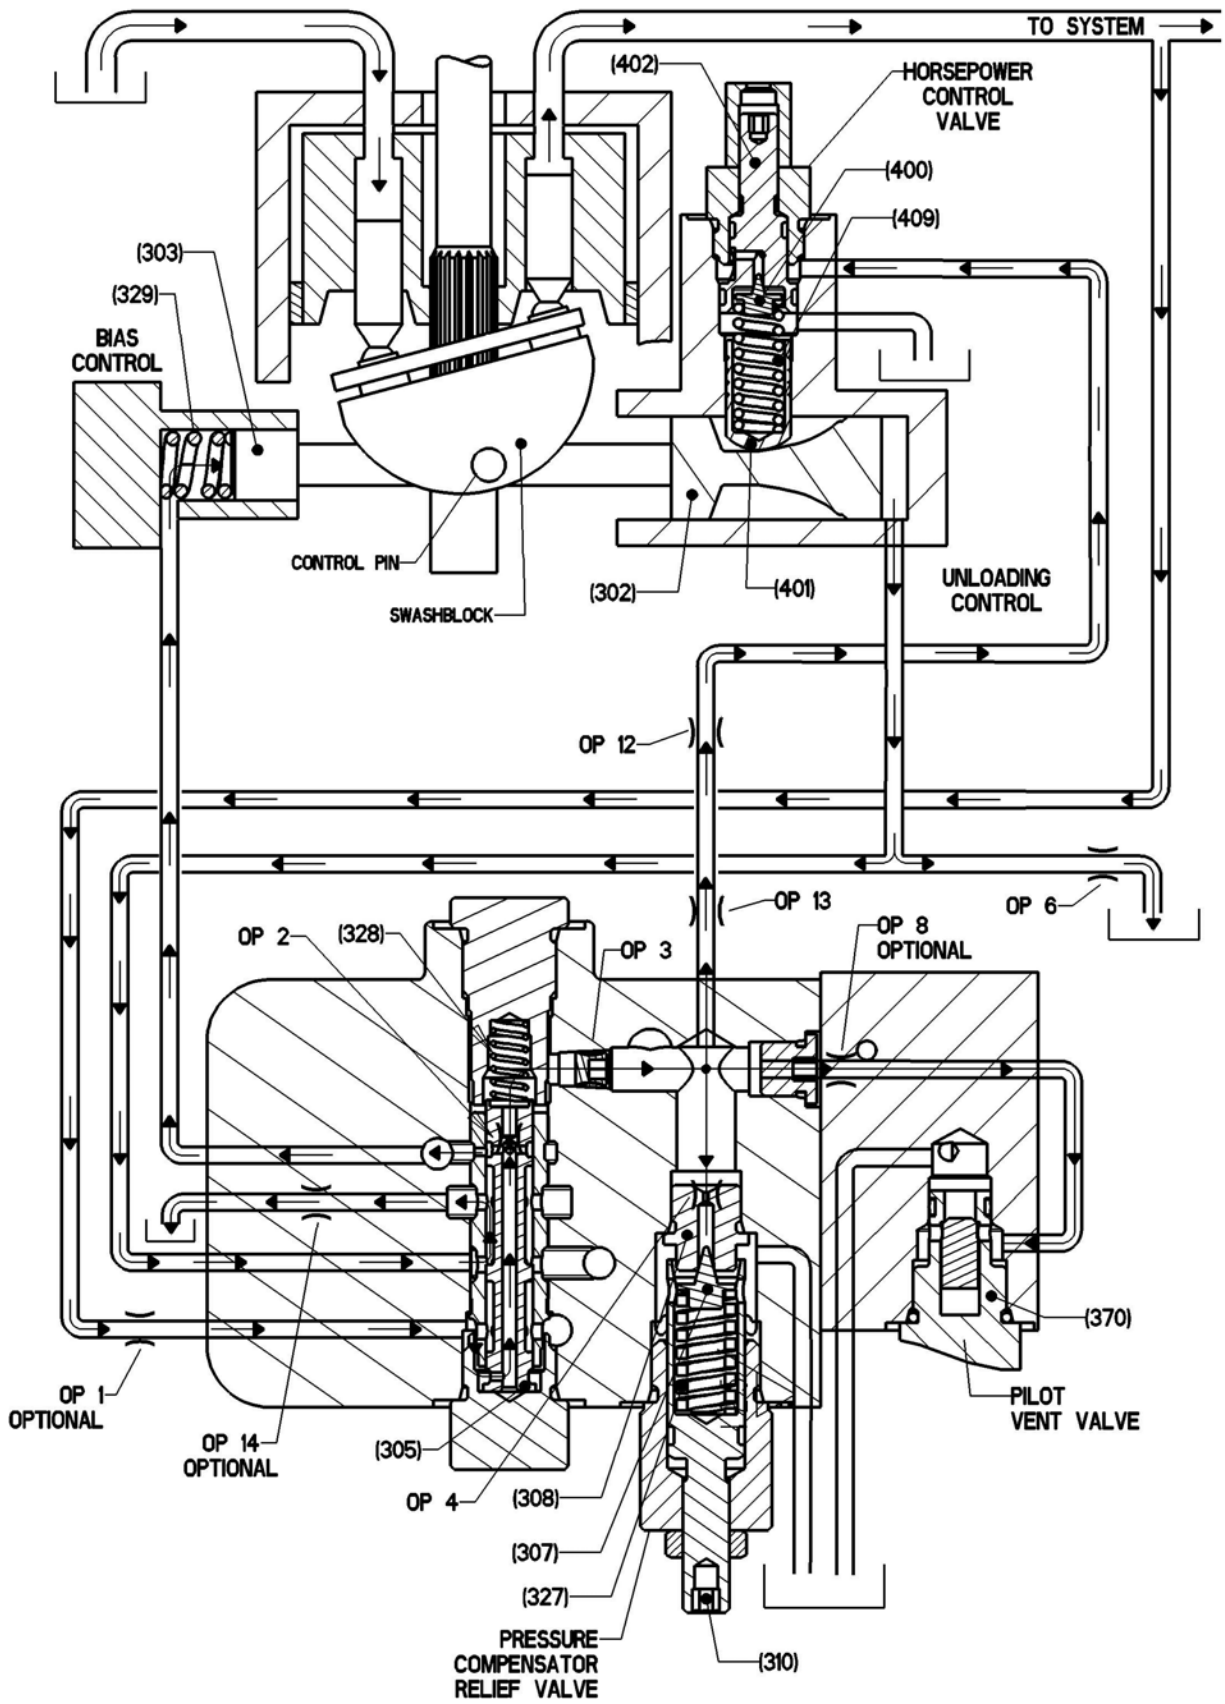

Figure 4. Raising Pressure (Loading)
If the system pressure drops below preset compensating pressure, the relief valve poppet (307) seats and forces on the pressure compensating spool (305) are balanced, the pilot control valve spring (328) returns the spool to the original position (Figure 4), swashblock position shifts, and the pump increases delivery until the relief valve screw (310) preset pressure is reached again.